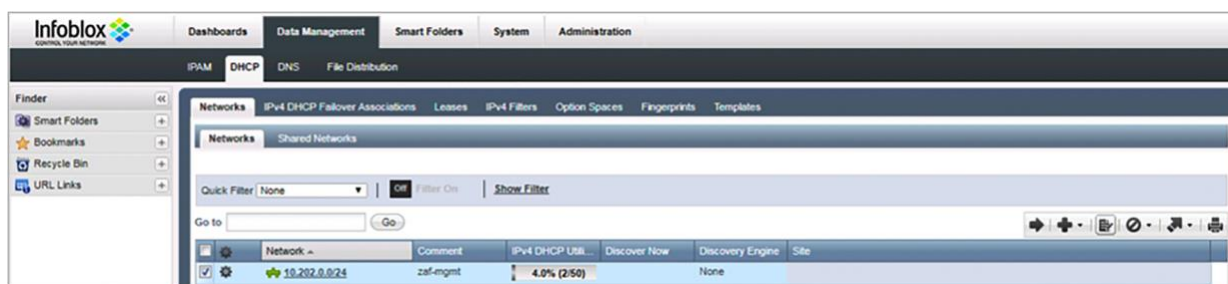

Figure 20.
1. For Infoblox, under Data Management > DHCP > Networks, choose the IPv4 network and click Edit (**Figure 20.**).